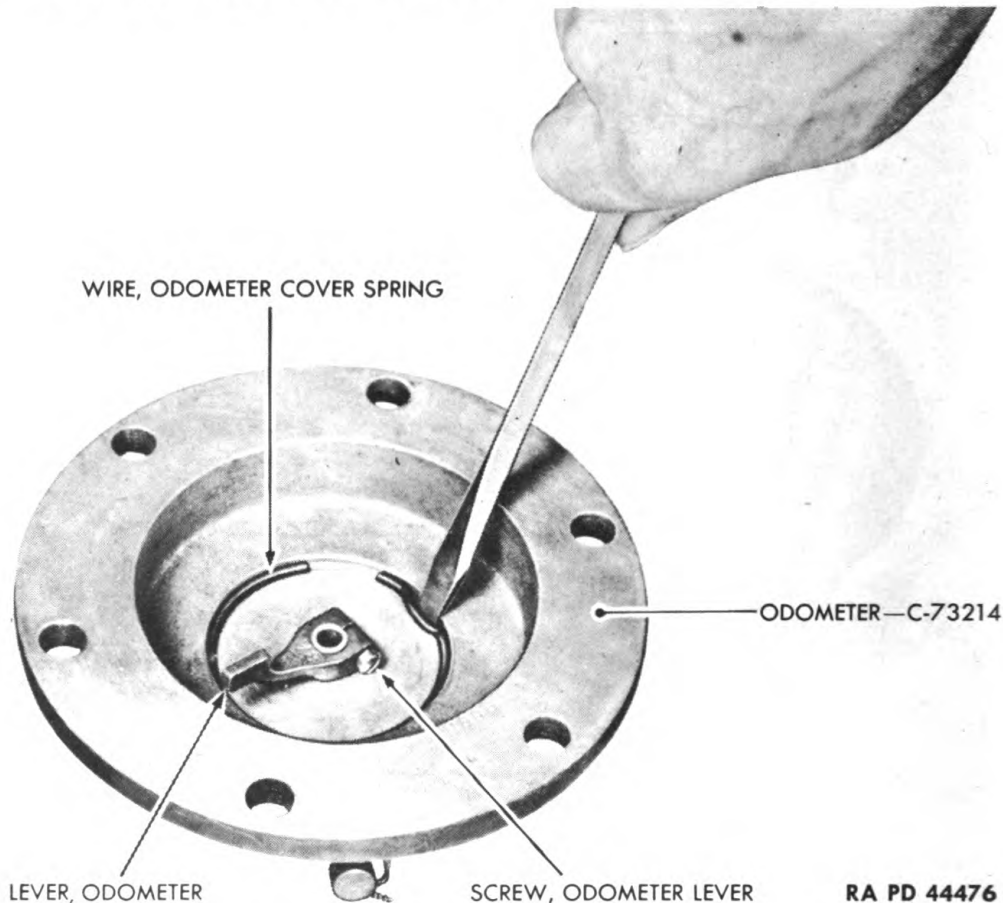

Figure 266—Removing Odometer Cover Spring Wire
(1) Pry odometer cover spring wire out of inside of odometer assembly (fig. 266).